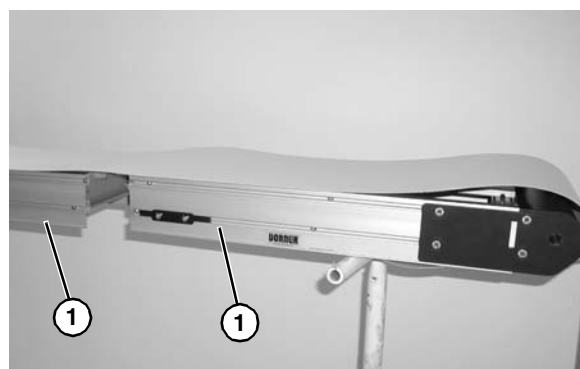

Figure 5
2. Roll out conveyor belt and place conveyor frame sections (**Figure 5, item 1**) into belt loop.